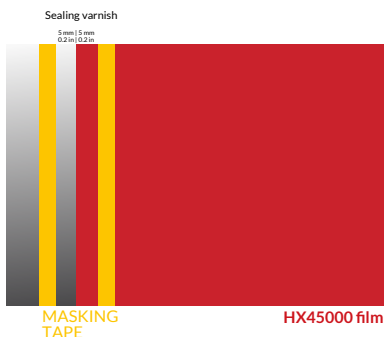

Figure 33
- 1 to the SKINTAC HX45000 film at 5 mm (0.2 in.) from its edge. (FIG. 33)